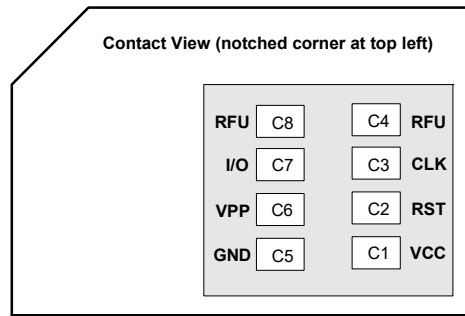

Figure 3-4: SIM Card Contacts (Contact View)
a. See Figure 3-4 on page 29 for SIM card contacts.